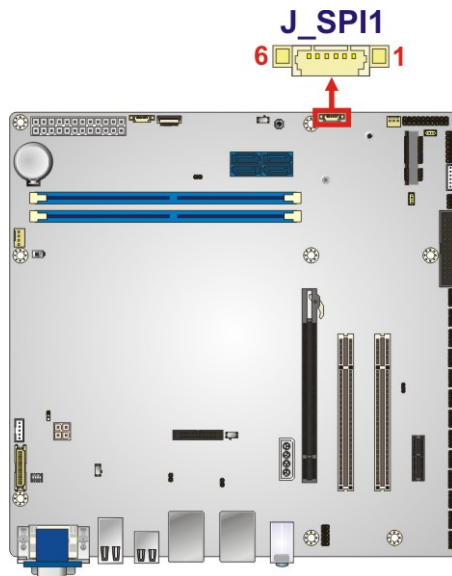

Figure 3-30: SPI Flash Connector Location
- CN Location:** See **Figure 3-30**